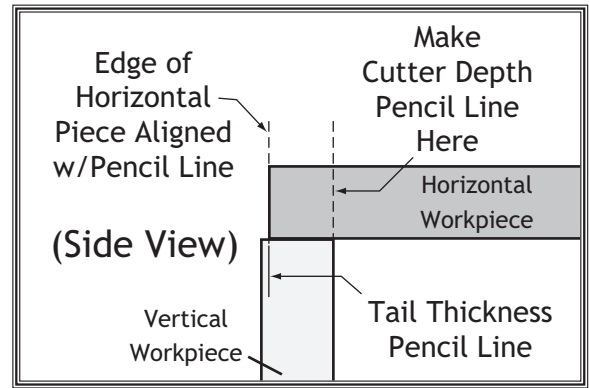

Figure 41. Marking horizontal workpiece to set the cutter depth.
2. On a workbench, copy the "Tail Thickness" dimension from the vertical workpiece to the horizontal workpiece (**Figure 41**).